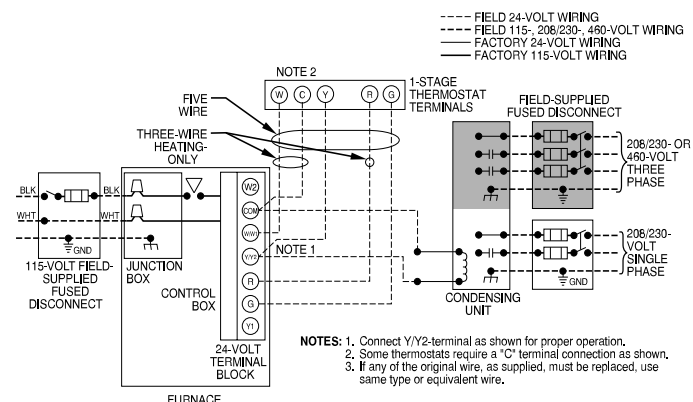

Fig. 34 – Typical Two-Stage Field Wiring Diagram
See Fig. 34 for field wiring diagram showing typical field 115V wiring. Check all factory and field electrical connections for tightness.
6. Connect power cord power and neutral leads to furnace power leads as shown in Fig. 34.
5. Connect field power and neutral leads to furnace power leads, as shown in Fig. 34.
Make field 24V connections at the 24V terminal strip. See Fig. 39. Connect terminal Y/Y2 as shown in Fig. 34 for proper cooling operation. Use only AWG No. 18, color-coded, copper thermostat wire.